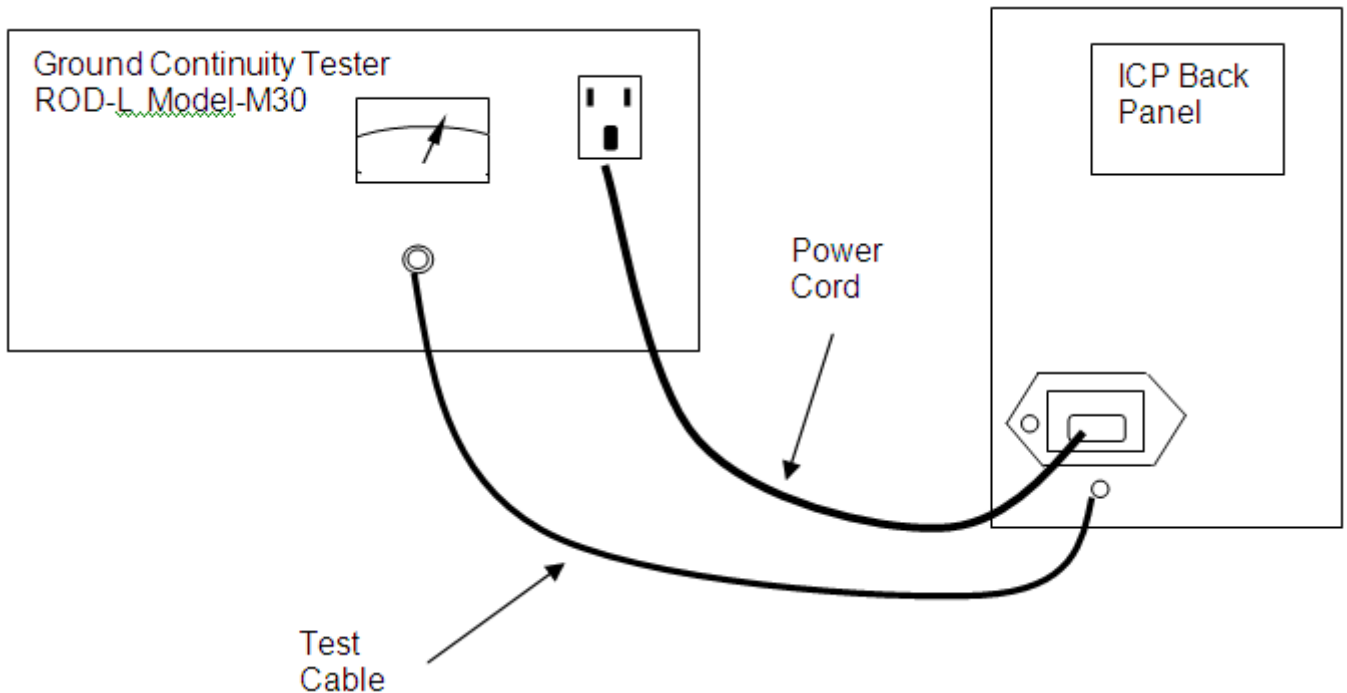

Figure 21
### 14.3.2 Ground Continuity (refer to Figure 21)
- B. Test resistance between the earth terminal of the AC power cord and AC entry inlet metal screw head using high current meter ROD-L, Model-M30 as shown in Figure 21. Resistance threshold of this meter is set to 0.15 ohm. Record the result in the attachment table (PASS/FAIL)